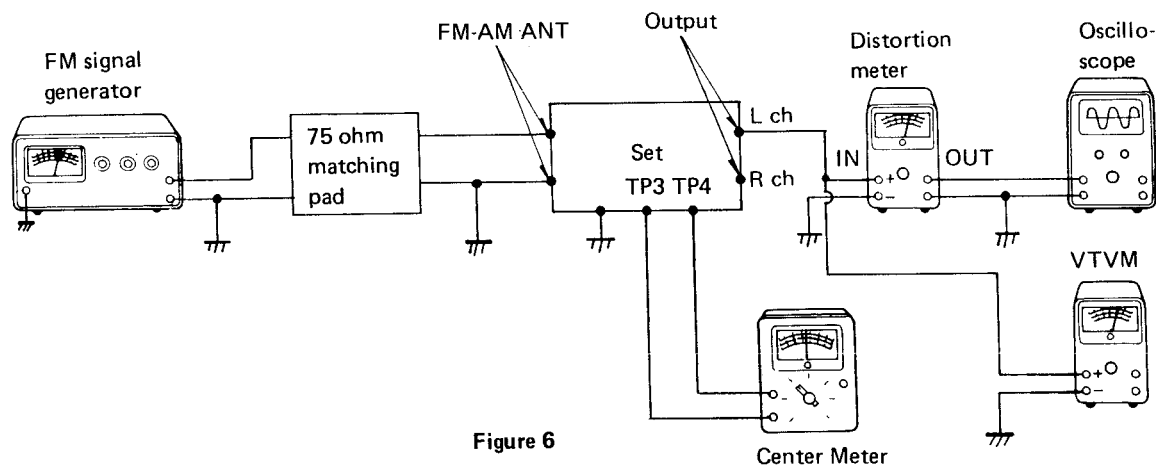

Figure 6
- (1) Connect test equipments as shown in Figure 6.
- (2) Push the FM button.
- (3) Set the MUTING switch to OFF () and IF BAND switch to WIDE ().
- (4) Generator modulation . . . 1 kHz (75 kHz dev.).
- (5) Proceed as outlined in the TABLE 3. FM ALIGNMENT CHART.